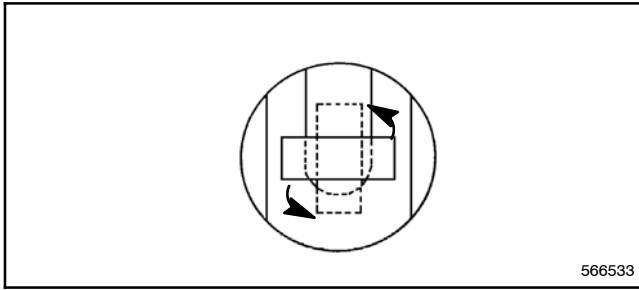

Figure 3-10 Rotation Of The Panel Latch
6. Rotate the four panel latches to the vertical position. See Figure 3-10.